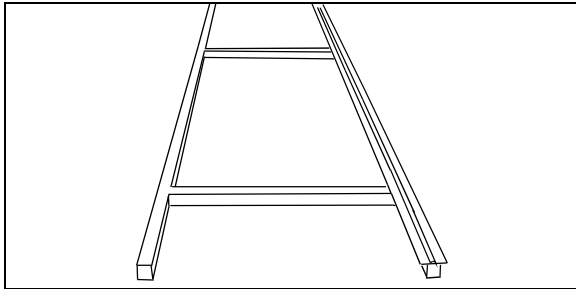

FIGURE 51: SUPPORT RAIL INSTALLATION 06501
2. Set the support rail (Prévost #29261) down (Fig. 51). Using shims, adjust its level to stabilize it.
- Set the support rail (Prévost #29261) down (Fig. 51). Using shims, adjust its level to stabilize it. Use previous reference marks to ensure proper positioning.